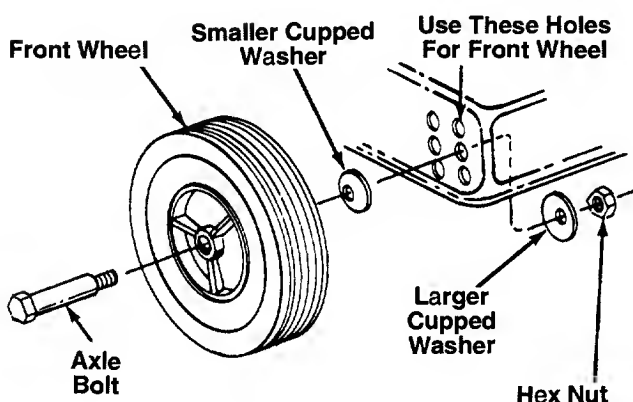

FIGURE 7.
- ← If your mower has two sets of holes (see figure 7), the front wheels must be assembled in one of the three holes nearest the front of the deck. The rear wheels must be assembled in one of the three holes nearest the rear of the deck. To assemble the wheels: (See figure 7)
Adjustment may be made by removing and moving axle bolts to desired position. Cutting heights will be raised as axle bolts are moved to a lower hole and lowered as axle bolts are moved to a higher hole in the deck. All axle bolts must be mounted in the same relative position. Cupped washers must be assembled so that the cupped side of the washers are against the deck. Refer to figure 7.